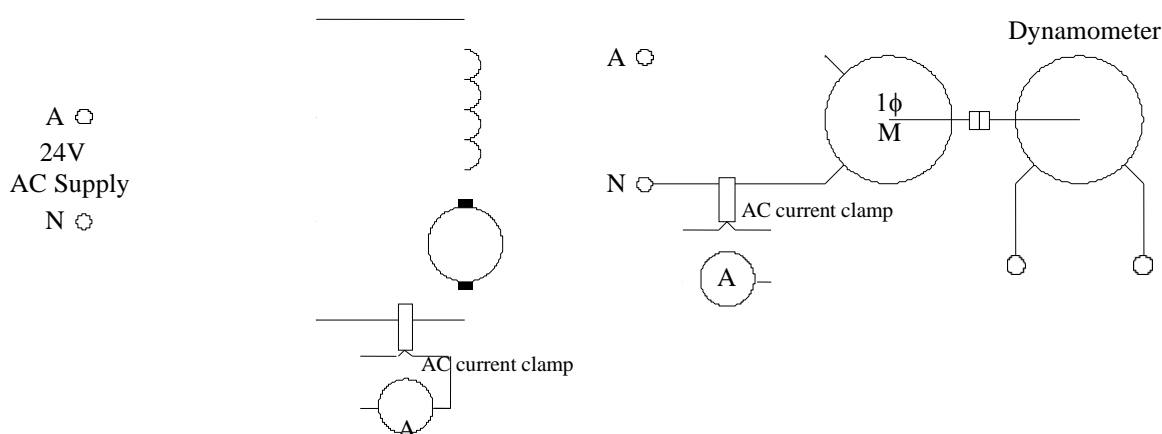

Figure 3
1. Reconnect the motor circuit directly to 24 volts AC supply as in figure 3.